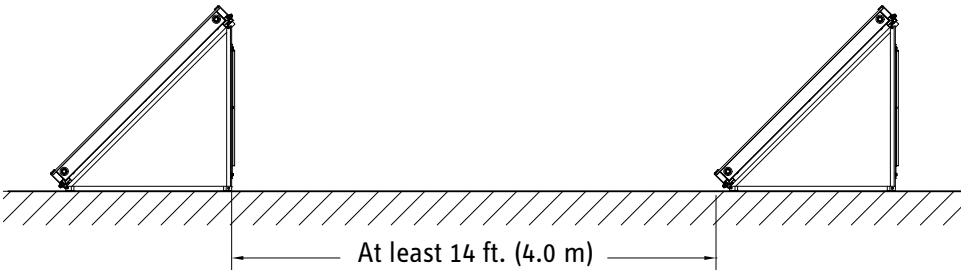

Figure 5.2.11: Recommended row spacing for 45° horizontal arrays for latitudes up to 50°.
- at least 14 ft. (4.0 m) for horizontal installation, as shown in **Figure 5.2.11**.